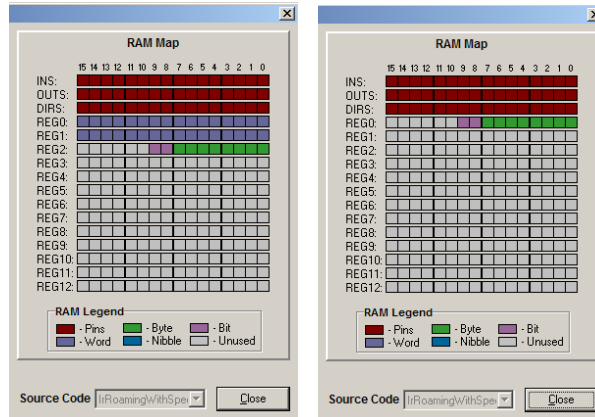

**Figure 3-3**
- ✓ Check the RAM Map to see how much RAM you are using. The color coding should show that REG 0 and 1 are word storage variables. It should also show that REG 2 has a byte and two bit variables, as shown on the left in Figure 3-3.
- ✓ Open the Memory Map again, and verify that only a byte and two bit variables are allocated to `REG 0`, as shown on the right in Figure 3-3.